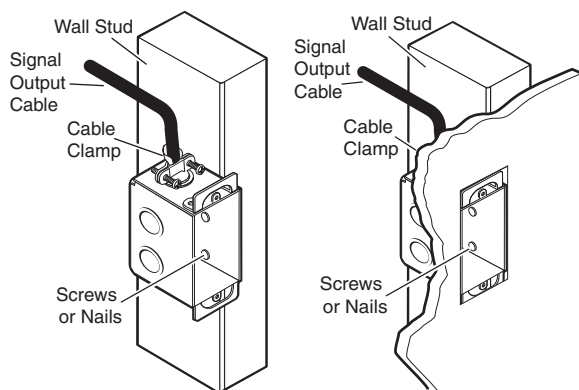

Figure 2 — Installing the wall box
5. Secure the wall box with nails or screws, leaving the front edge flush with the outer wall or furniture surface. See figure 2.